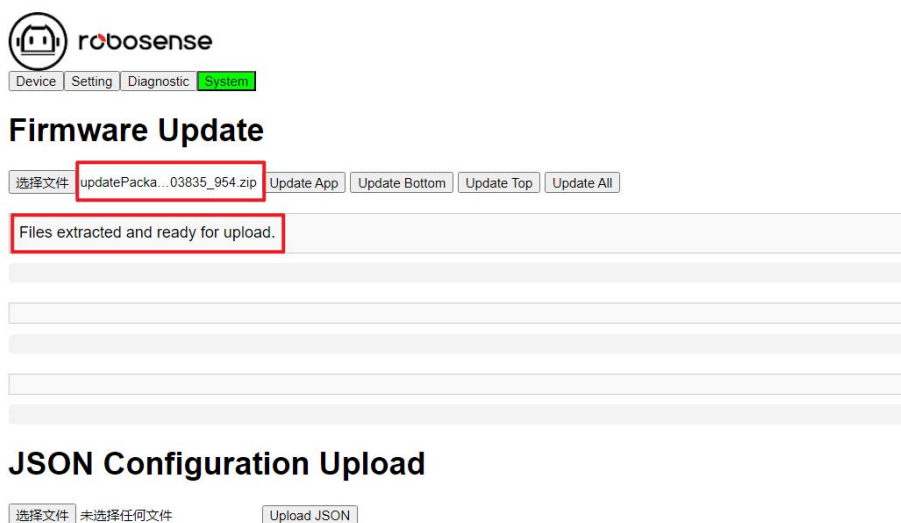

Figure 22 The page is displayed after the upgrade file is selected
- (3) At this time, the file name of the firmware to be upgraded will be displayed on the web interface. Select the corresponding upgrade button to upgrade the corresponding firmware, as shown in Figure 22.